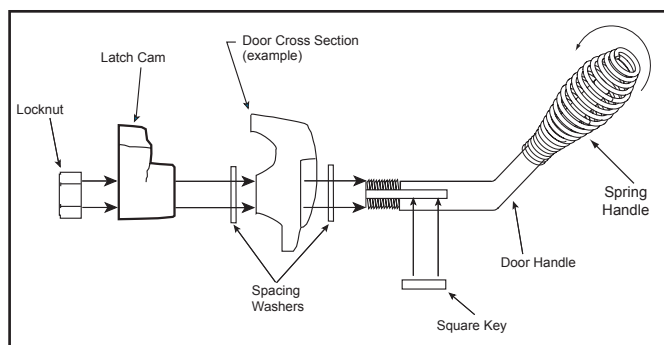

Figure 23.1 - Door Handle for Arched Door
3. Install second washer(s) as shown in **Figure 23.1**.
7. Install handle turning in a counter-clockwise motion to desired location on door handle rod. **Figure 23.1**.